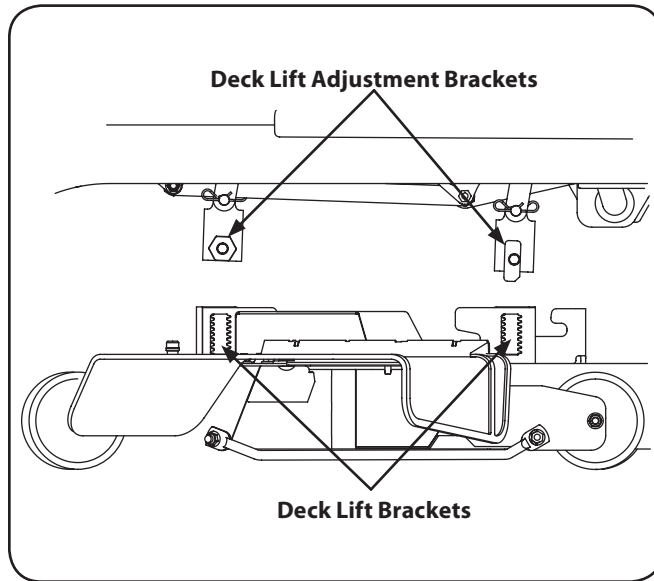

Figure 7-6
2. Slide the deck under the tractor on the right side of the tractor lining up the deck lift adjustment brackets and the deck lift brackets on the deck. See Fig. 7-6.